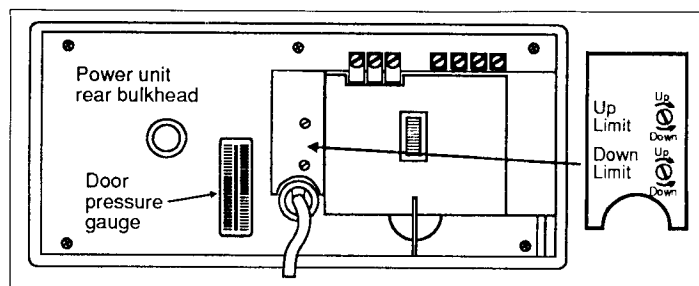

Figure 26
**Step 51:** To increase the "down" distance, turn the slotted "Down Limit" screw in the clockwise direction (see Figure 26). Note that each turn is equal to approximately one inch of door travel. Then estimate the number of turns required.